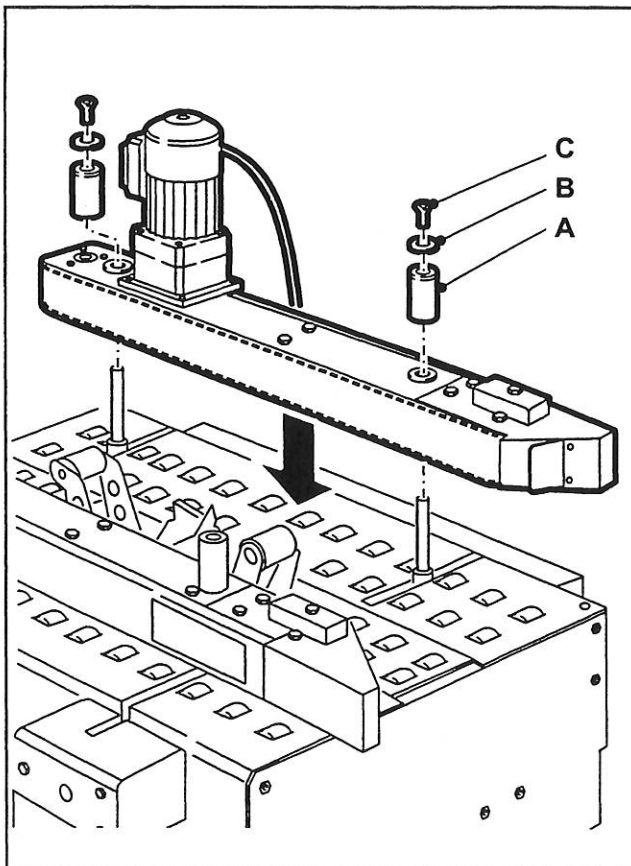

Figure 2-2 – Drive Assemblies
5. Install drive belt assemblies. Refer to Figure 2-2.
- c. Fasten drive belt assemblies in place with spacer (A), special washer (B) and M6 x 16 flat head screw (C) on each mounting shaft.